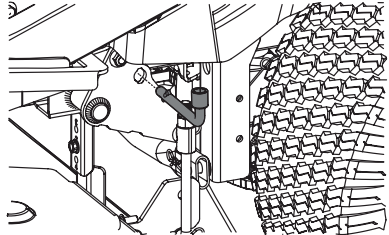

Figure 48
5. Use the deck lift pedal and deck lift knob to place the deck in the lowest position and use the multi-tool to lock the deck lift components in place. There are a pair of alignment holes by the rear wheel on the left side of the tractor (one on the frame and one on the deck lift arm) (Figure 48). Ensure tool is fully inserted properly, locking the deck lift arm in place to the frame.